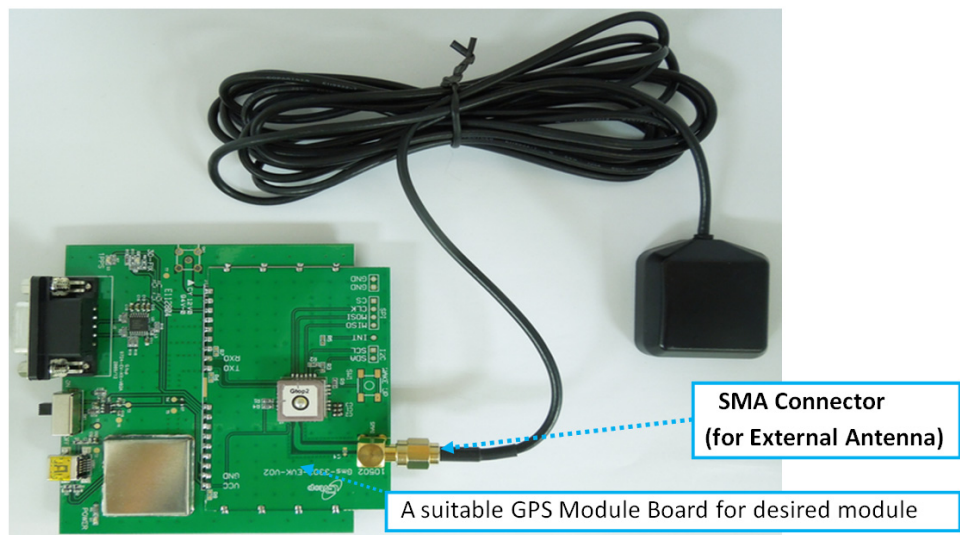

Figure 3-3: Using an External Antenna
2. Connect an External Antenna with the GPS Module as shown in Figure 3-3.